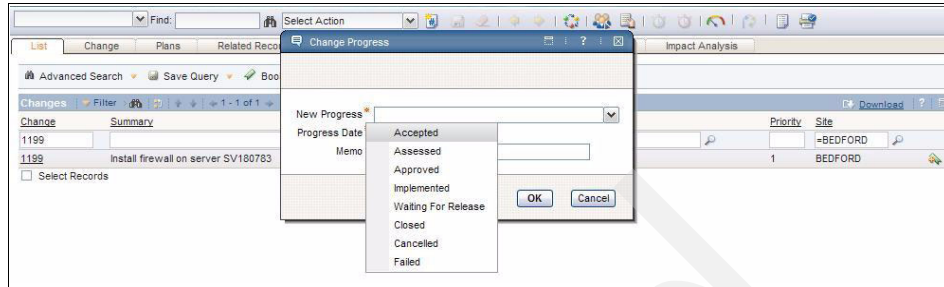

Figure 8-66 Change Progress list
- c. Choose a progress value from the list (Figure 8-66 on page 294).